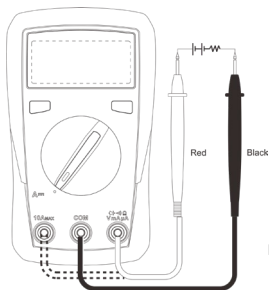

Figure 3
6. DC Measurement (see Figure 3)
7. AC Measurement (only for UT131A, see Figure 3)
Please refer to Section 6 "DC Measurement (see Figure 3)"